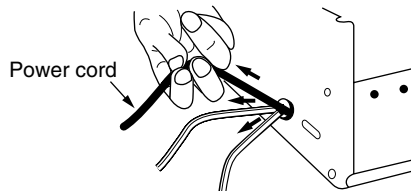
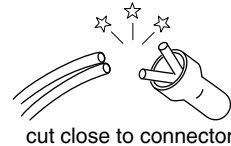

Fig.2
Fig.3
Turn the loading motor pulley in the direction as indicated by Fig.2. As both (A) and (B) levers are lodged twice, push the levers in the direction as indicated by Fig.3 to release them. When pushing the levers, do it in the order of (A), (B), (B), (A). When the holder has been lowered, turn the pulley until the cassette holder is securely in place without allowing any up/down movement.